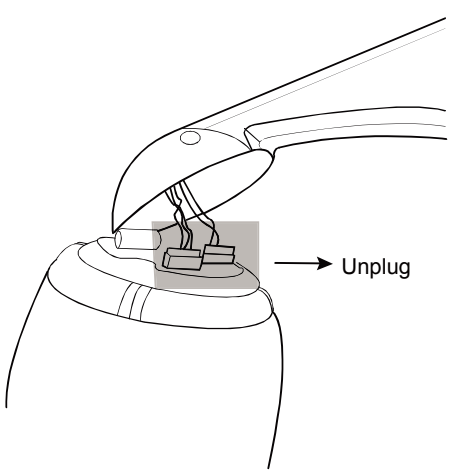

Figure 2
- Step 2: Disconnect the inner plug and disassemble the camera into 2 parts. (Please refer to *Figure 2*)